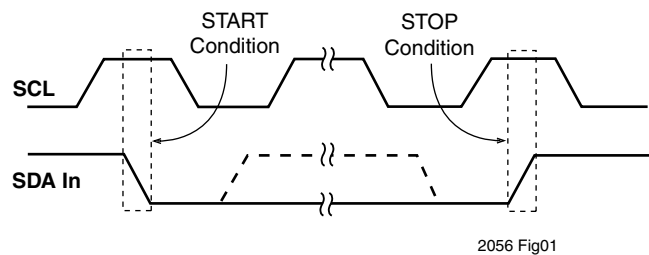
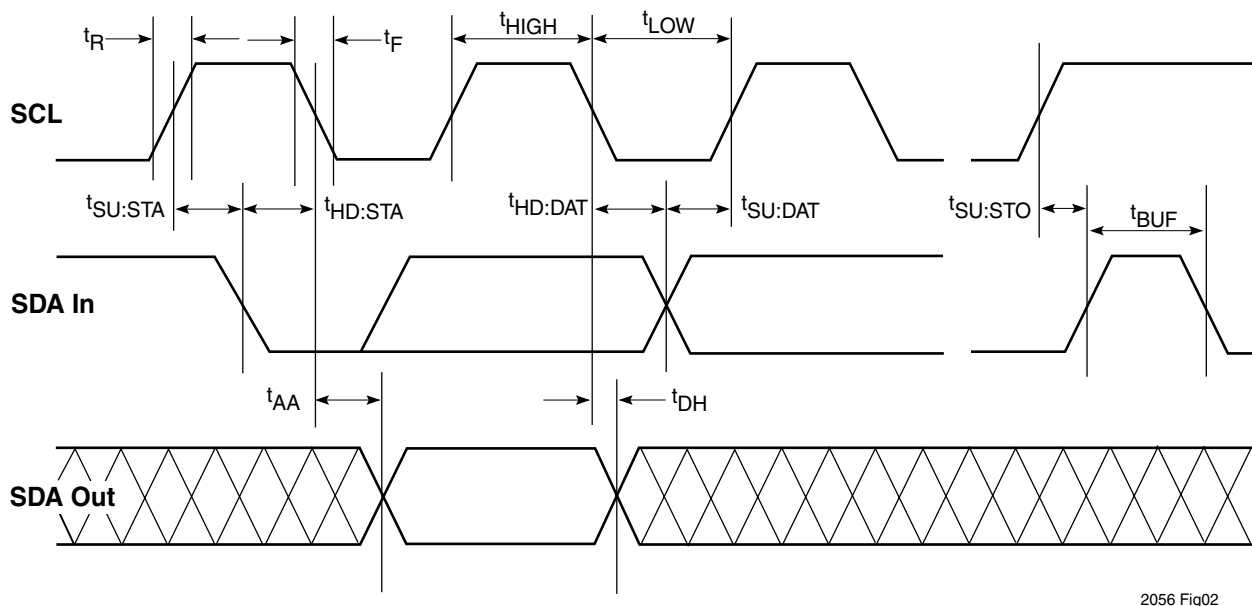

Figure 3. START and STOP Timing
Figure 4. I²C Data/Clock Timing
Note (1) These values are guaranteed by design. Refer to the timing diagram in Figure 4.
Data transfers are initiated when a Master issues a Start condition, which is a high to low transition on SDA while SCL is high (see Figure 3). The Start is immediately followed by an eight bit transmission: bits 7 through 1 comprise the device type identifier and device bus address; bit 0 is the Read/Write bit indicating the action to follow. If the intended device receives the byte and recognizes its address it will return an Acknowledge during the 9th clock cycle. Some data transfers will be concluded with a Stop condition, which is a low to high transition on SDA while SCL is high. Note: a Stop condition must be performed for all nonvolatile Write operations. Timing for all I²C operations are summarized in Figure 4 and Table 1.